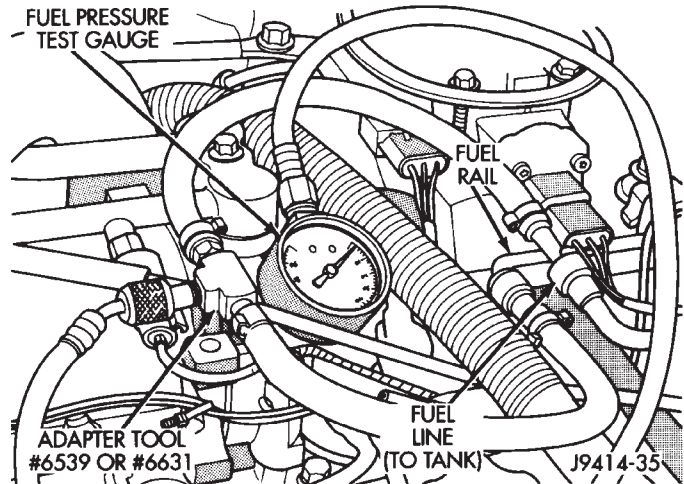
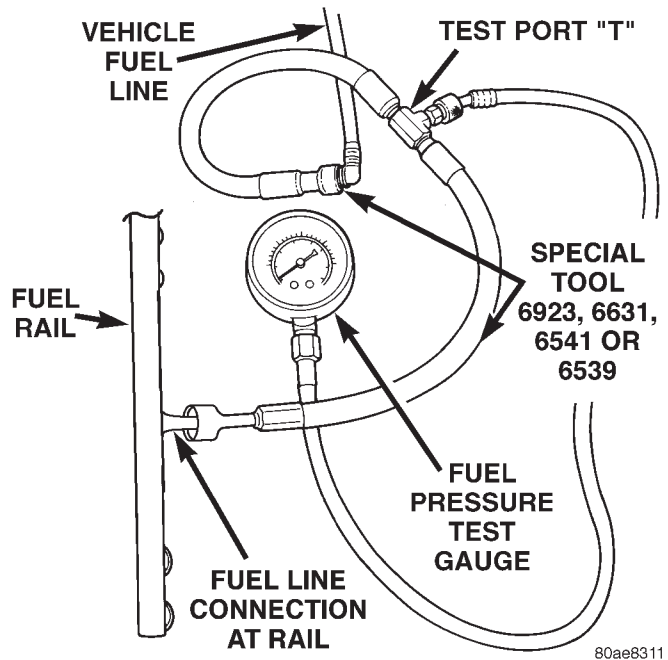

Fig. 8 Connecting Adapter Tool—Typical
Fig. 9 Connecting Adapter Tool—Typical
(1) Disconnect the fuel inlet line at fuel rail. Refer to Fuel Tubes/Lines/Hoses and Clamps in this section of the group for procedures. On some engines, air cleaner housing removal may be necessary before fuel line disconnection.
(2) Connect the appropriate Fuel Line Pressure Test Adapter Tool (number 6539, 6631, 6541 or 6923) between the disconnected fuel line and fuel rail (Fig. 8) or (Fig. 9).
(3) Connect the 0-414 kPa (0-60 psi) fuel pressure test gauge (from Gauge Set 5069) to the test port on the appropriate Adapter Tool. **The fittings on both tools must be in good condition and free from any small leaks before performing the proceed-ing test.**
(4) Start engine and bring to normal operating temperature.
(5) Observe test gauge. Normal operating pressure should be 339 kPa \pm 34 kPa (49.2 psi \pm 5 psi).
(6) Shut engine off.